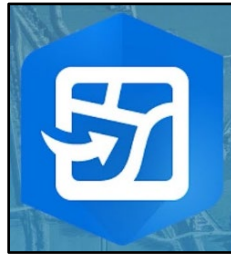

Figure 10
1. Download and open the ESRI ArcGIS Field Maps App (Figure 10). The App can be found within the App Store on all mobile devices.